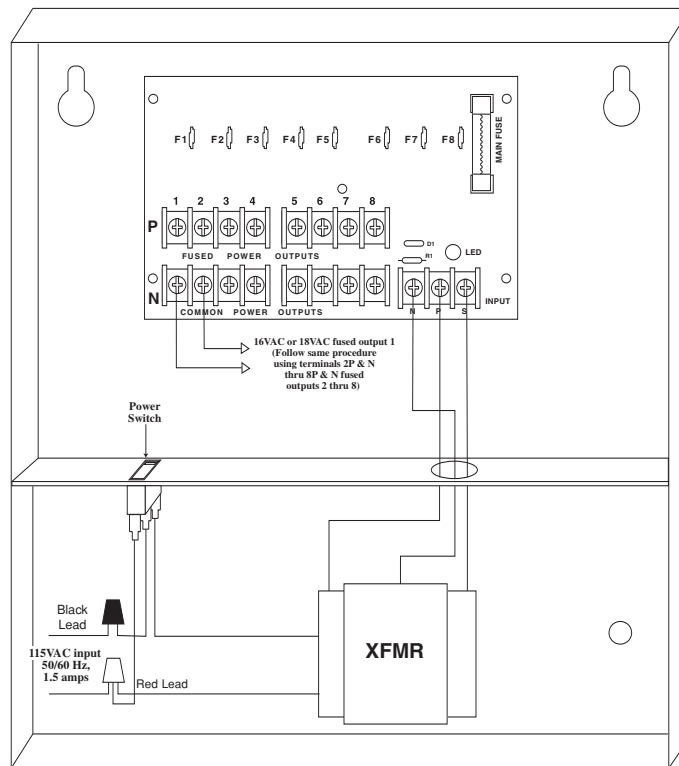

Fig. 3 - AL168300CB
6. Connect devices to terminals marked [1P - 1N through 4P - 4N] on PD4/PD4CB board (Figs. 3 & 5, pgs. 5-6) or terminals marked [1P - 1N through 8P - 8N] on PD8/PD8CB board (Figs. 1, 2 & 4, pgs. 4-5), carefully observing polarity.